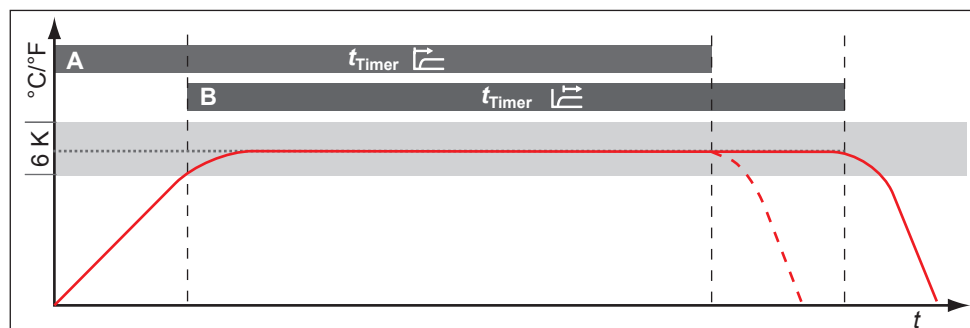

Fig. 35 Timer mode
Here, you can choose whether the digital backwards counter with target time setting (see page 34, timer) should be setpoint-dependent or not – this determines whether the timer should not start until a tolerance band of ± 3 K around the set temperature is reached (Fig. 35, B) or whether it should start immediately after activation (A).